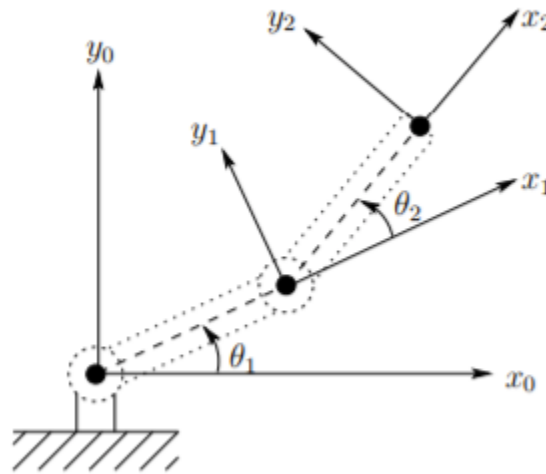

Figure 1. Example of robot chain with 2 segments
1. Note: The angles the user enters to rotate a segment are the directional angles starting at the ray extending from the previous segment to the segment whose angle is in question (As shown in Figure 1). That is because, in reality, the motor at the joint of the robot only knows its angle relative to its previous segment, i.e. whenever a segment rotates, all the ones after it rotate by the same amount as well as shown in Figure 3. These angles will be translated by the forward kinematics function into angles from the x-axis as described in the segment description.